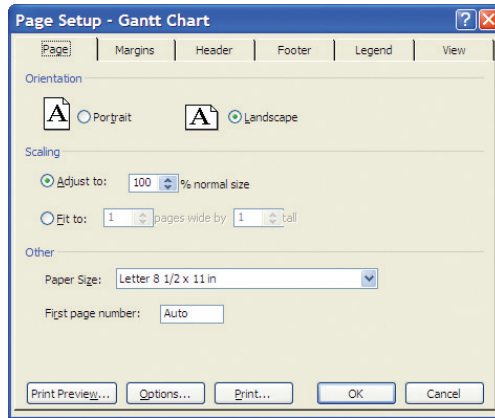

FIGURE T12.22
2. Click **File**, then choose **Page Setup** to display the Page Setup dialog box. Specify the options you want for the printed view using the controls on the different tabs of this dialog box (see Figure T12.22). When finished, click **OK**.